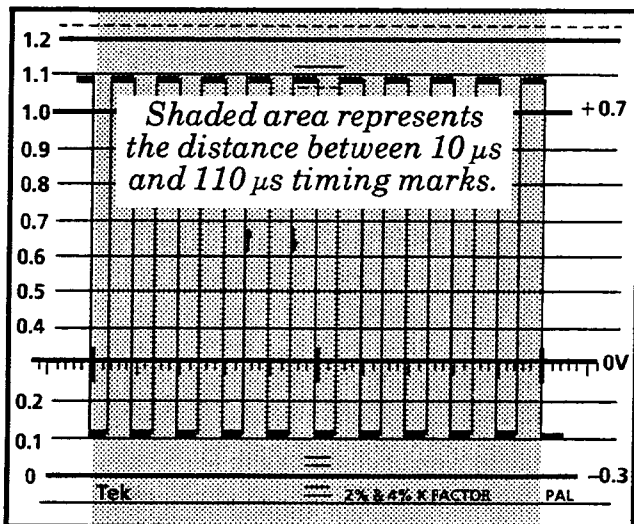

Fig. 5-4. 10 full cycles of calibrator signal between timing marks.
- c. Use the HORIZONTAL position control to place the first falling calibrator transition on the 10 μ s graticule mark (the timing mark on the left side of the graticule that goes completely through the blanking line). See Fig. 5-4.